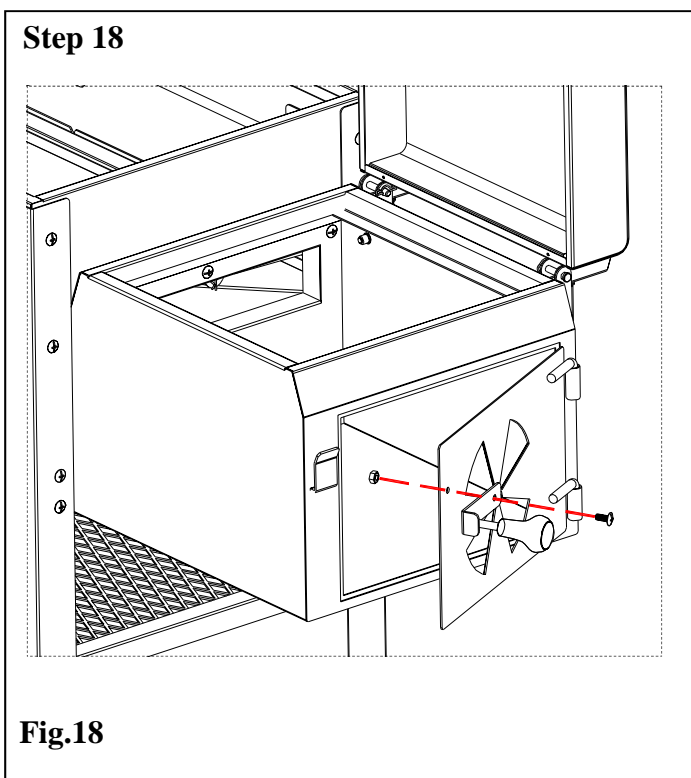

Fig.18
*Procedure:* Refer to Fig. 18 and Place the Firebox Door Handle on the outside of the Firebox Door and insert an M6x15 bolt through the Door Handle and the Door as shown. Attach an M6 metal lock nut. Tighten with wrench or pliers until the Handle can still move freely.